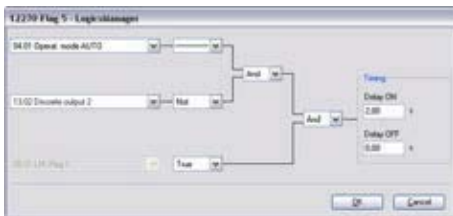

Fig. 164: LogicsManager function "Flag 5"
- ➔ Configure the LogicsManager function "Flag 5" as shown in (Fig. 164).